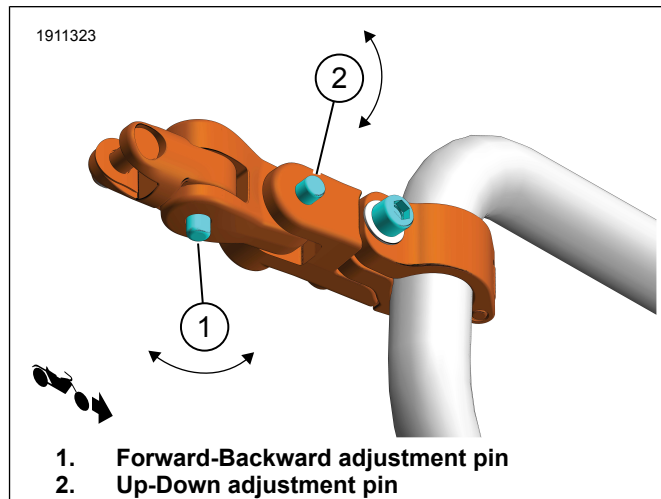

Figure 8. Footpeg Adjustment
Figure 8 is shown for Adjustment Purposes Only.
1. See Figure 8. Desired foot peg position can be obtained using adjustment pin:
- a. Push pin (1) to adjust peg **Forward or Backward**.
- b. Push pin (2) to adjust peg **Up or Down**.